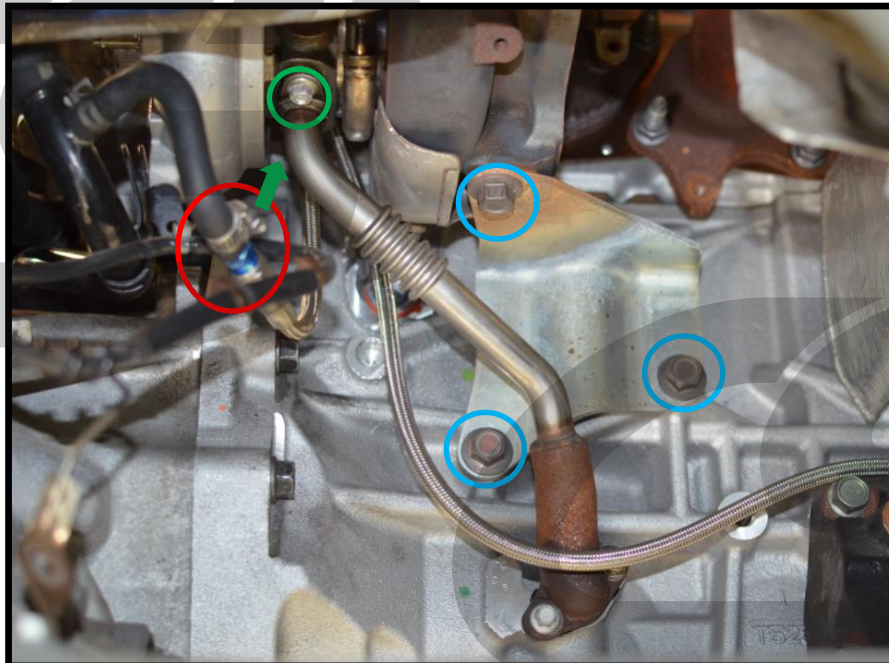

Figure 7a
Since the MS6 transfer case makes these components hard to see, Figure 7a below is from a Mazdaspeed 3. Most of the disassembly on this page will need to be done from above the engine by feel. All locations are identical to MS3.
- Remove the lower coolant line from the turbo, shown with the red circle in Figure 7a.
- Remove the two 8mm bolts holding the oil drain line to the turbocharger, shown with the green arrow & circle in Figure 7a.
- Remove the three 14mm bolts holding the turbo support bracket, circled in blue in Figure 7a.